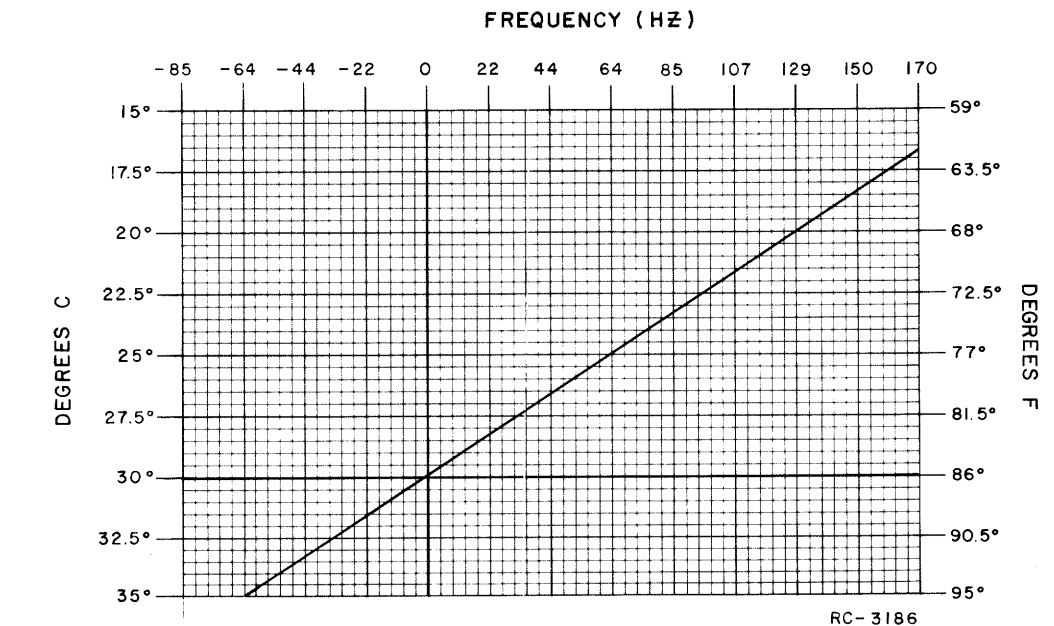

Figure 3 - Frequency Offset Chart
First, check the frequency to determine if any adjustment is required. (Refer to frequency offset chart, Figure 3). The frequency measurement requires equipment with an absolute accuracy that is 5 to 10 times better than the tolerance to be maintained. When adjusting the frequency, the entire radio should be as near as possible to an ambient temperature of 30°C (86°F).
To set crystal frequency using "beat frequency" method, the temperature should be at 30°C (86°F). If the temperature is not 30°C, then offset the "ON FREQUENCY" signal (at the receivers input), as a function of actual temperature, by the frequency ERROR FACTOR shown in Figure 3.
2. Maintain the radio at 30°C ($\pm 5^\circ\text{C}$, -10°C) and offset the oscillator, as a function of actual temperature, by the frequency error shown in Figure 3.